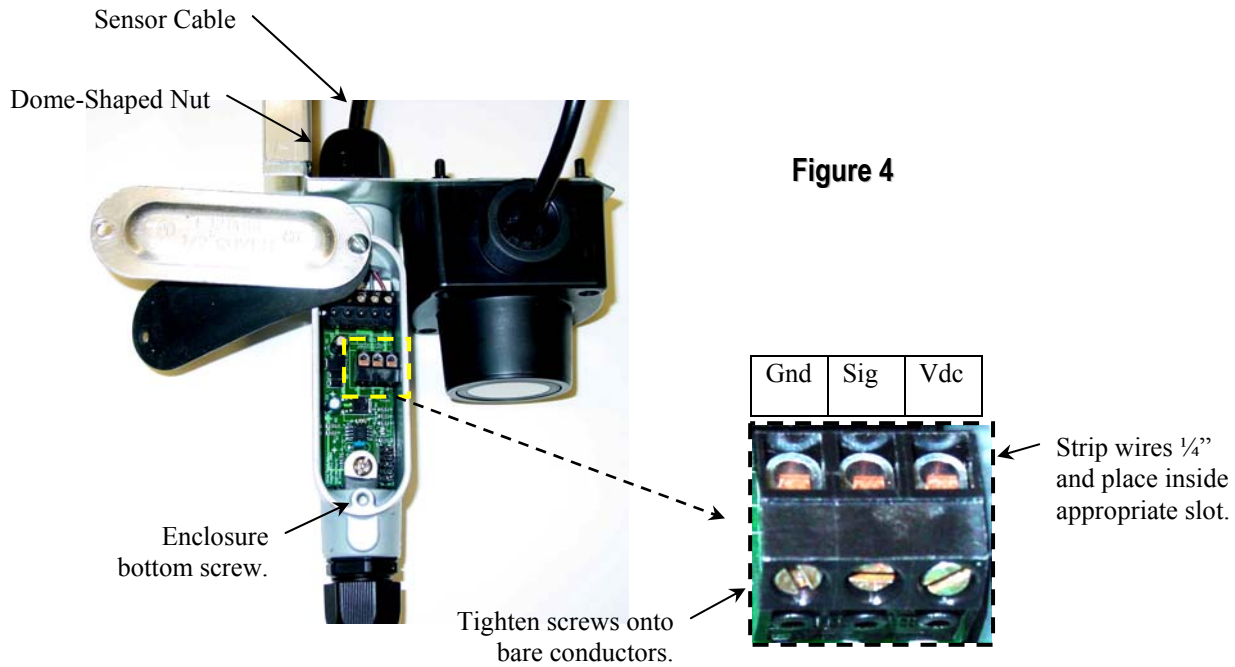

Figure 4
2. Observe the orientation of the 3-pin connector and remove the connector from the PCB header. **Refer to Figure 4.**